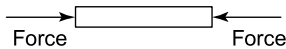

Figure 2.2
**Compression** is a force that tends to squeeze or crush a material, as shown in Figure 2.2. For example,